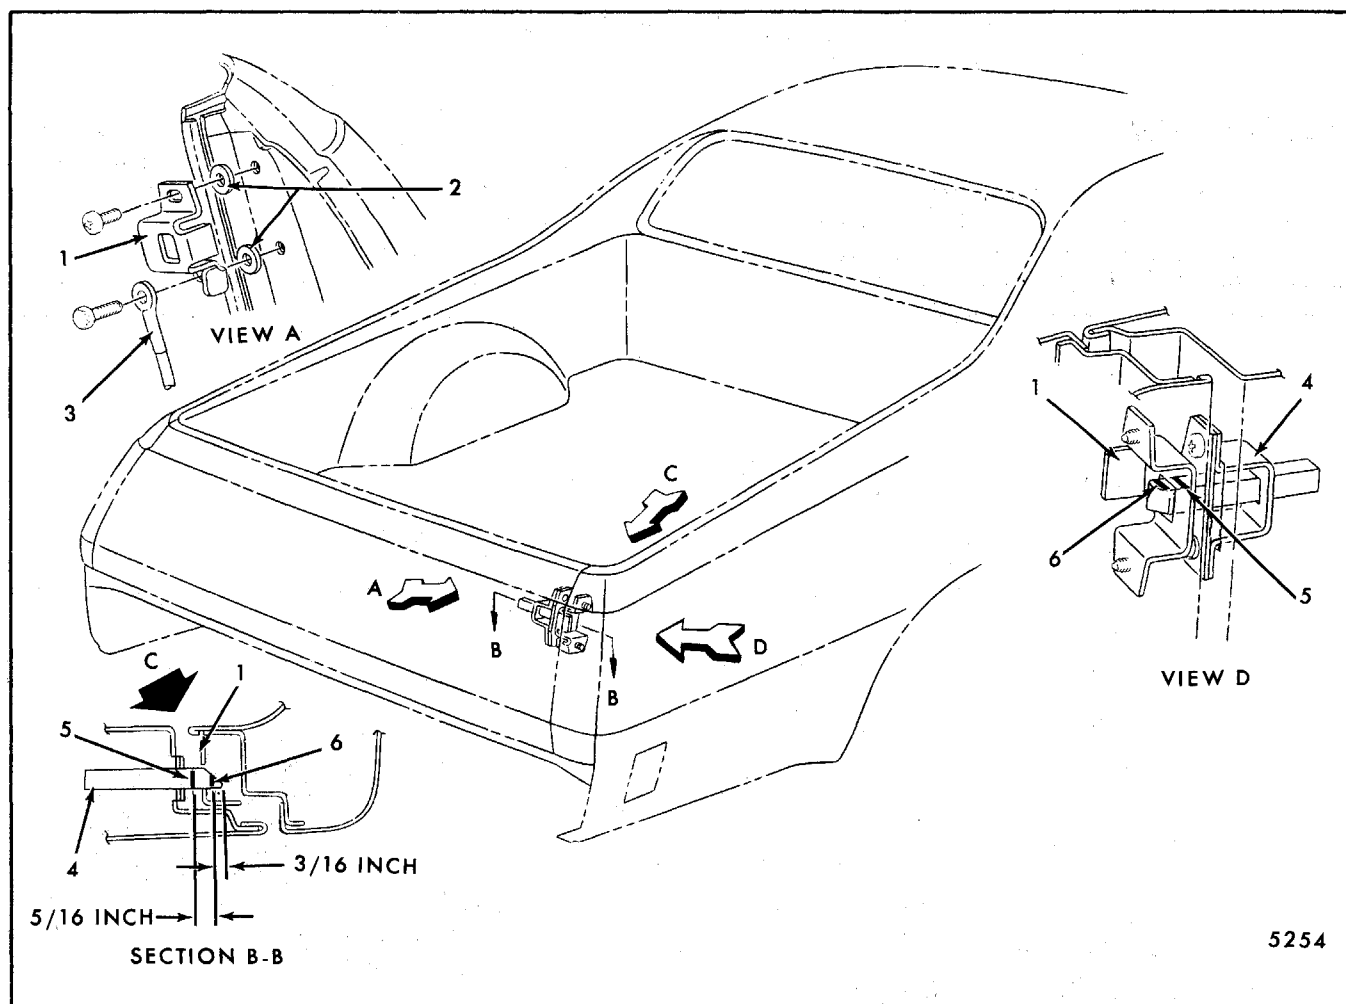

Fig. 7-125-Tailgate Latch to Striker Adjustment
2. Dimensional specifications for use of latch striker spacers are found in Figure 7-125.
- b. To determine if tailgate latch striker spacers are required, mark the latch as indicated in Section B-B, Figure 7-125, with a bright colored crayon, then slam gate closed to insure full latch to striker engagement.
- c. If marks "A and B" are visible when viewed through gap between back body pillar and tailgate pillar (Arrow C, Fig. 7-125), install a spacer (1/16" thick plated flat washer - 1/2" I.D.) between striker and pillar at striker attaching bolt locations. Add additional spacers as required until only mark "B" is visible inboard of striker.